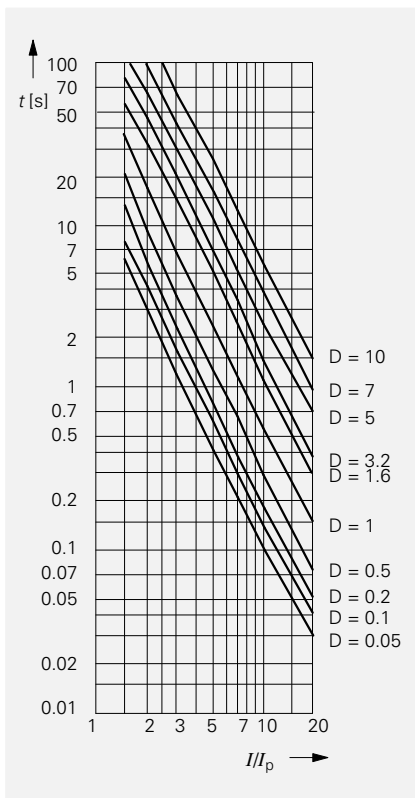

Fig. 7
- I -Squared- T Curve (Fig. 7)